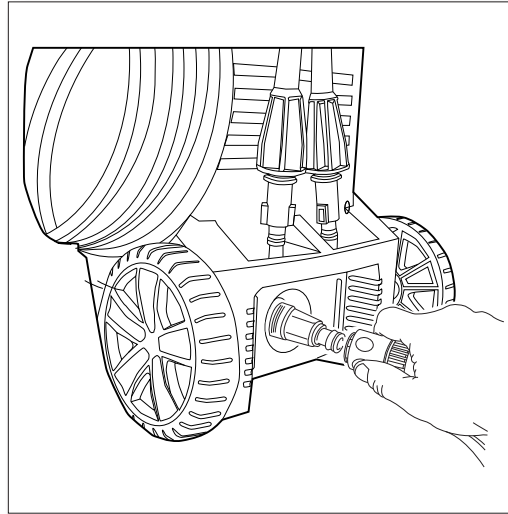

Fig. 14
- Install the garden hose adapter (GHA) and quick connect filter. It is made of two pieces. (1) A clear plastic adapter with a screen filter (about 3 inches long) and a blue/black collar attachment (**Fig. 14**).